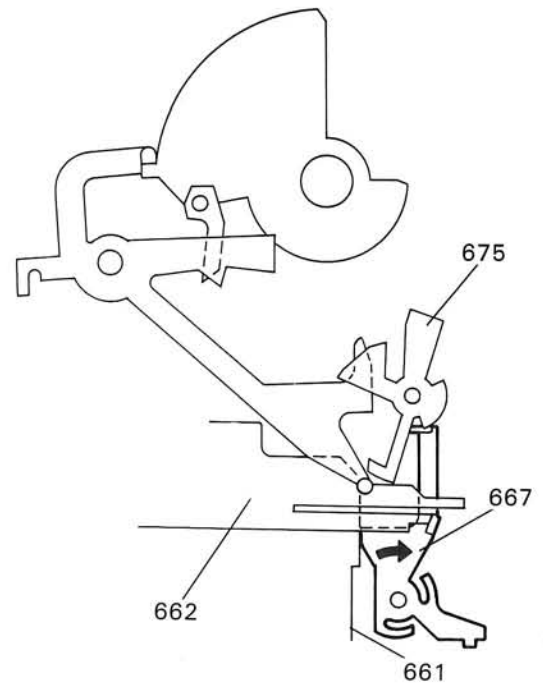

Fig. 14
In this situation, as shown in Fig. 14, the manual lever R (675) is in contact with the switch lever (662), and the cycle plate (661) presses against the discrimination lever (667).